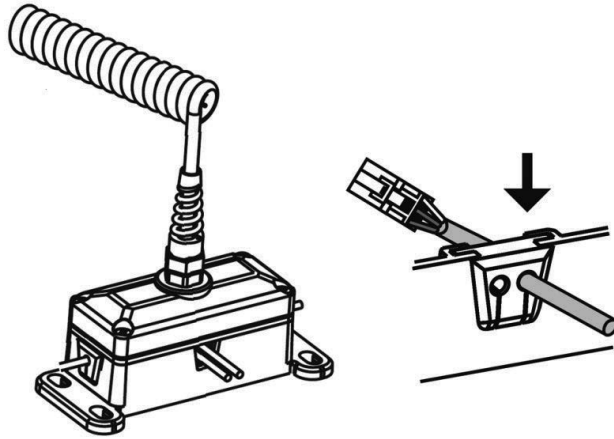

Figure 2 – Cable entry in the terminal block
- Insert the cables from protective sensors to the terminal block (Figure 2), through sealing inserts. Prior to this operation, choose sealing inserts from the set (for  $\varnothing 3.4$  mm cable – 3 pcs.; for  $\varnothing 4.4$  mm cable – 1 pc.).